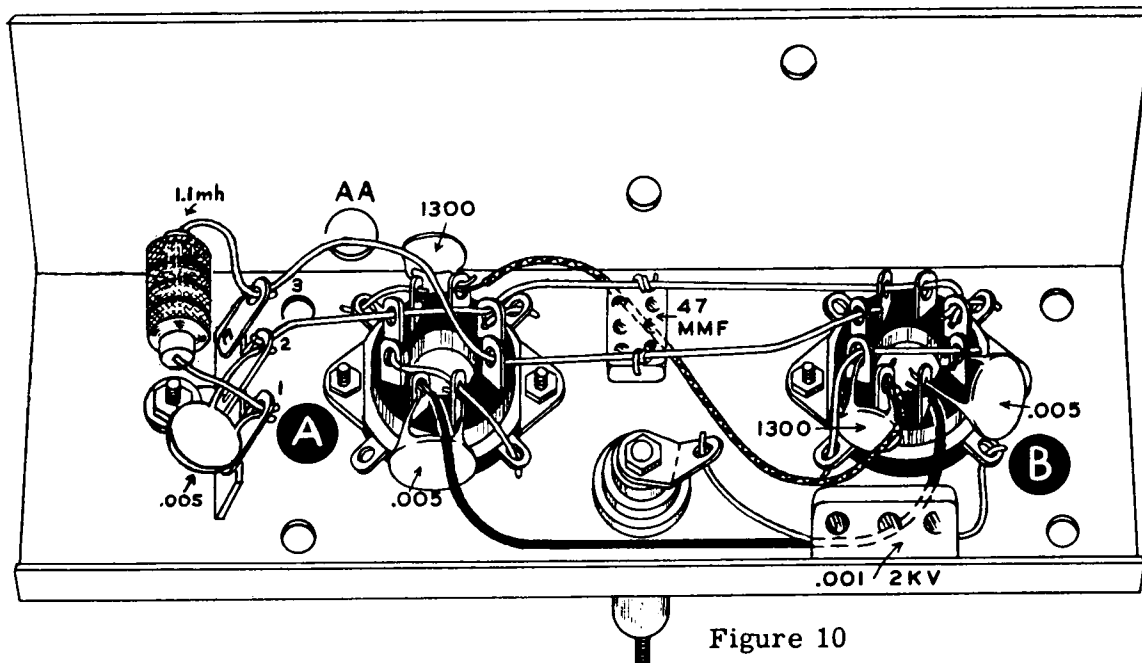

Figure 10
- () Identify the 6146 sub-chassis from Figure 10.
- () Mount two ceramic octal saddle-type sockets on the sub-chassis with the keyways facing away from each other. Use 1/4" 6-32 screws, lockwashers and nuts. See Figure 10.
- () Mount a feed-through insulator in the 5/16" hole. Arrange the stud in the insulator so most of it projects through the top. Leave only enough of the stud at the bottom of the insulator to hold a solder lug and two nuts. See Figure 10 and position the insulator body and solder lug as shown.
- () Connect a .005 μ fd disc ceramic capacitor from pin 6 (NS) to pin 7 (NS) of socket A.
- () Connect a .005 μ fd disc ceramic capacitor from pin 1 (NS) to pin 2 (NS) of socket B. Position the capacitor to clear the adjacent ground lug.
- () Connect a 1300 μ fd disc ceramic capacitor from pin 2 (NS) to pin 3 (NS) of socket A.
- () Connect a 1300 μ fd disc ceramic capacitor from pin 3 (NS) to pin 4 (NS) of socket B.
- () Connect a .005 μ fd disc ceramic capacitor from lug 1 (NS) to lug 2 (NS) of the terminal strip.
- () Connect an orange lead from pin 3 of socket A (NS) to pin 3 of socket B (NS). Run the lead close to the chassis.
- () Connect a black lead from pin 7 of socket A (NS) to pin 2 of socket B (S). Run this lead close to the chassis also.
- () Run a heavy bare wire through the following terminals in order (see Figure 10): lug 2 of the strip, pins 1 and 4 of socket A and pins 6, 7 and 8 of socket B. Solder lug 2 of the terminal strip and pins 6 and 7 of socket B.
- () Connect a heavy bare wire from pin 8 of socket B (S) to the adjacent ground lug (S).
- () Connect a heavy bare wire from pin 4 (S) to the adjacent ground lug (S) on socket A.
- () Connect a heavy bare wire from pin 2 (S) to the adjacent ground lug (S) on socket A.
- () Refer to Figure 10 and connect a $47\ \mu\mu\text{f}$ mica capacitor (yellow-violet-black) between the two heavy wires as shown. Keep the leads short and solder both connections.
- () Connect a $.001\ \mu\text{fd}$ 2000 volt mica capacitor (brown-black-red) from the #1 ground lug on socket B (S) to the feedthrough insulator solder lug (NS).
- () On the terminal strip, connect a 1.1 mh RF choke from lug 1 (NS) to lug 3 (NS).
- () At point 9 of the cable (within the 6146 compartment) connect the red lead to the solder lug on the feed-through insulator (NS).
- () Connect the orange lead at this point to pin 3 of socket B (S). Refer to Figure 10 for socket identification.
- () Connect the twisted pair of black wires coming through 3/4" grommet D to pin 7 of socket A (S).
- () Connect the violet lead coming through grommet D to lug 1 of the terminal strip (S).
- () Connect a short bare wire from lug 3 of the terminal strip (S) to the adjacent solder lug on the feed-through insulator (S).
- () Using a 5 1/4" length of #14 bare wire, slip a 4" length of sleeving over the wire and pass it through hole AA in the side of the 6146 sub-chassis (see Figure 10). Connect the end of the wire to pin 1 of socket A (S) and connect the other end to the ground lug on the silver strap at the tuning capacitor mounting screw (NS). Run the wire down close against the chassis by bending it at right angles where it comes through hole AA.